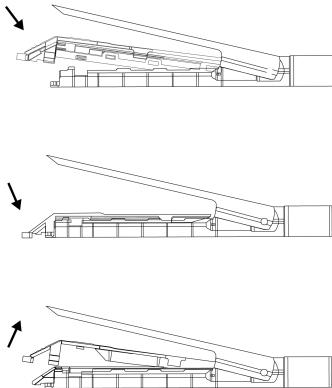

Fig. 4-4: Reload Installation
3. Slide the reload into the bottom of the reload cartridge from the middle of the reload cartridge until the reload alignment tab is stuck in the reload alignment slot. After firmly installing the reload to the designated position, a "snap" sound will be heard and then remove the protective cap of the reload and keep it for disassembling. The specific steps as shown in Fig. 4-4.